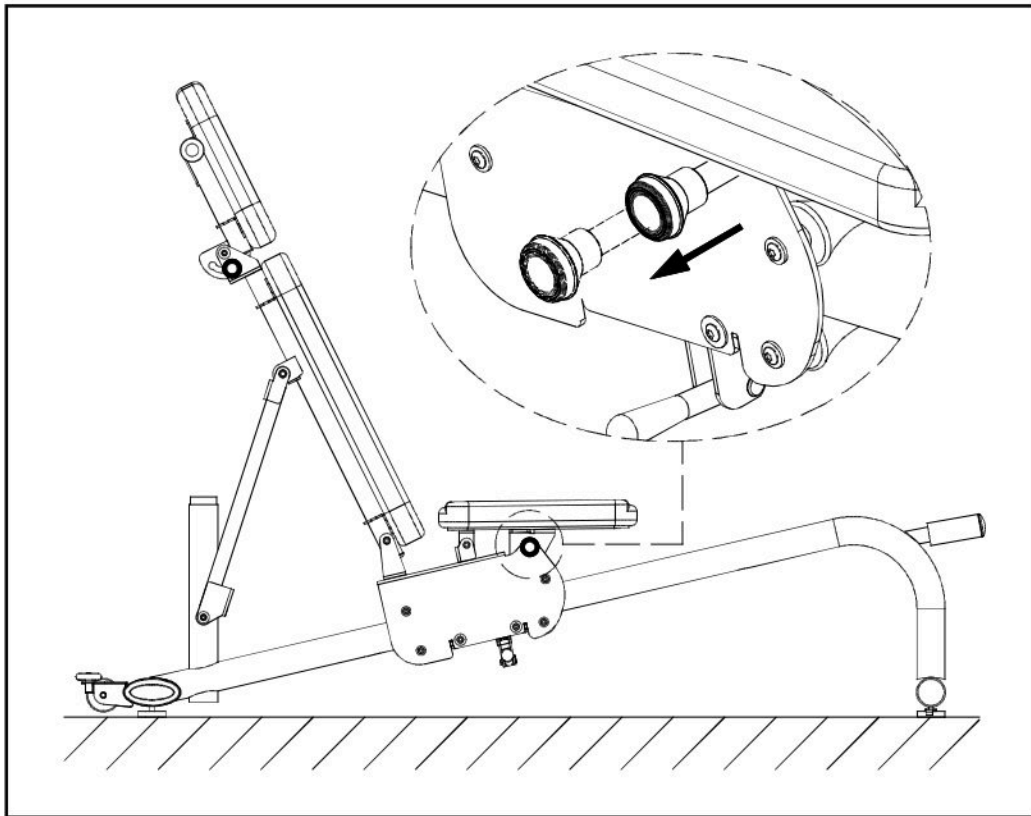

Fig.3
3. Pull the seat bottom angle adjustment knob A. See Fig.3.